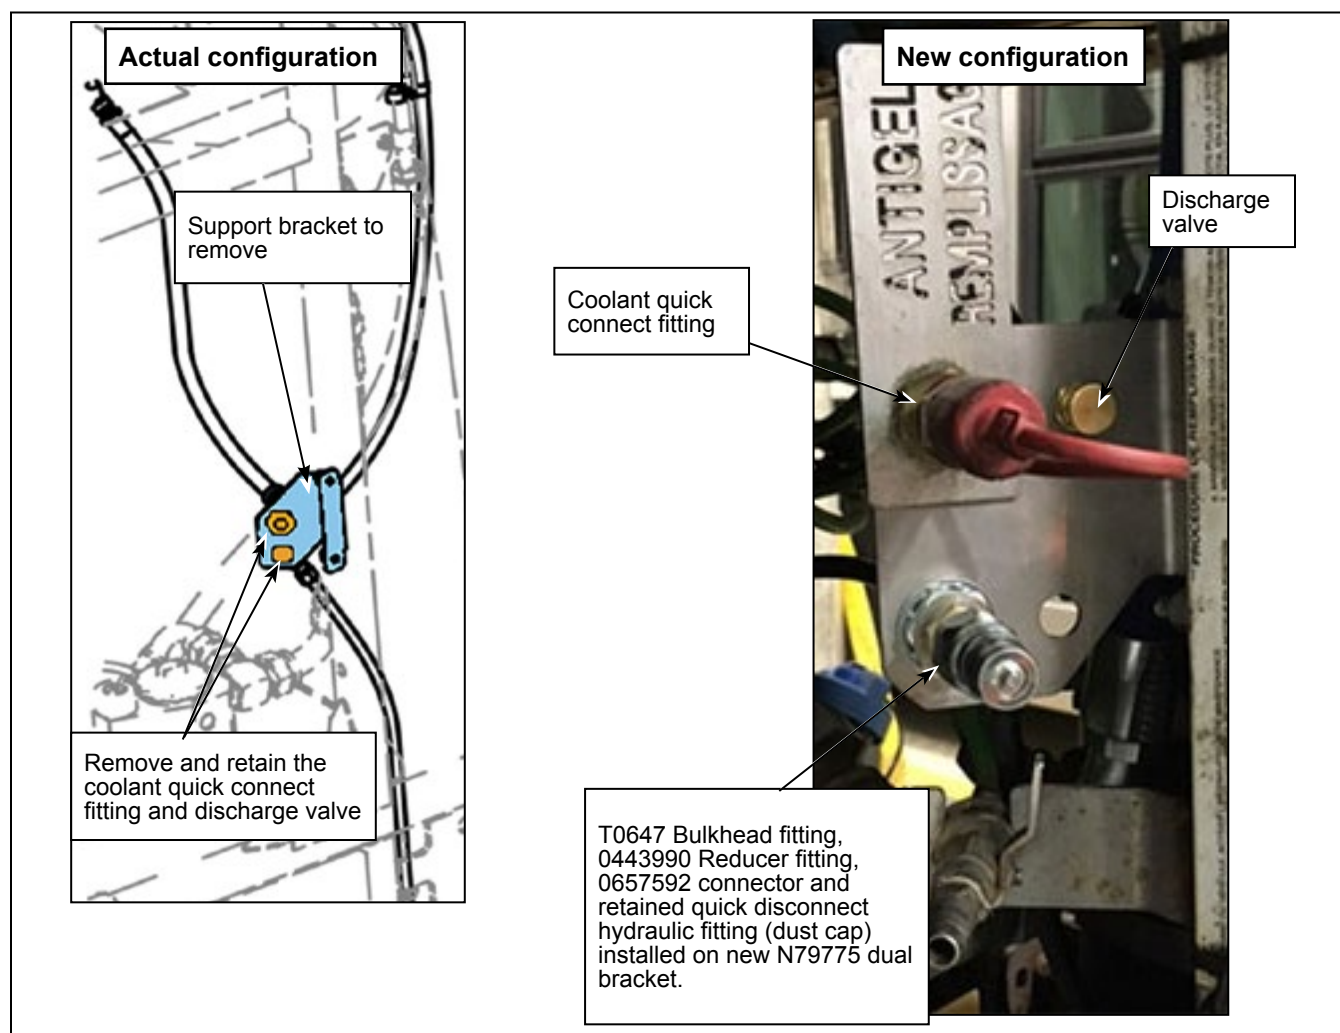

Figure 9 - Original Bracket to Remove and New N79775 Dual Bracket Installed
- 1.37. Remove the push button (N30612) from the discharge valve and remove the discharge valve from the support bracket. Retain the parts. See Figure 9.
- 1.39. Remove the coolant quick connect fitting from support bracket. See Figure 9.
- 1.40. Remove the support bracket from the frame. Retain the hardware. See Figure 9.
- 1.41. Install the new N79775 dual bracket on the frame using the retained hardware. See Figure 9.
- 1.42. Affix the removed quick connect fitting and discharge valve in the top holes of the new plate N79775. See Figure 9.
- 1.44. Install the new T0647 bulkhead fitting in the bottom left hole of the new plate N79775. See Figure 9.
- 1.45. Install the new 0443990 reducer fitting on the T0647 bulkhead fitting. See Figure 9.